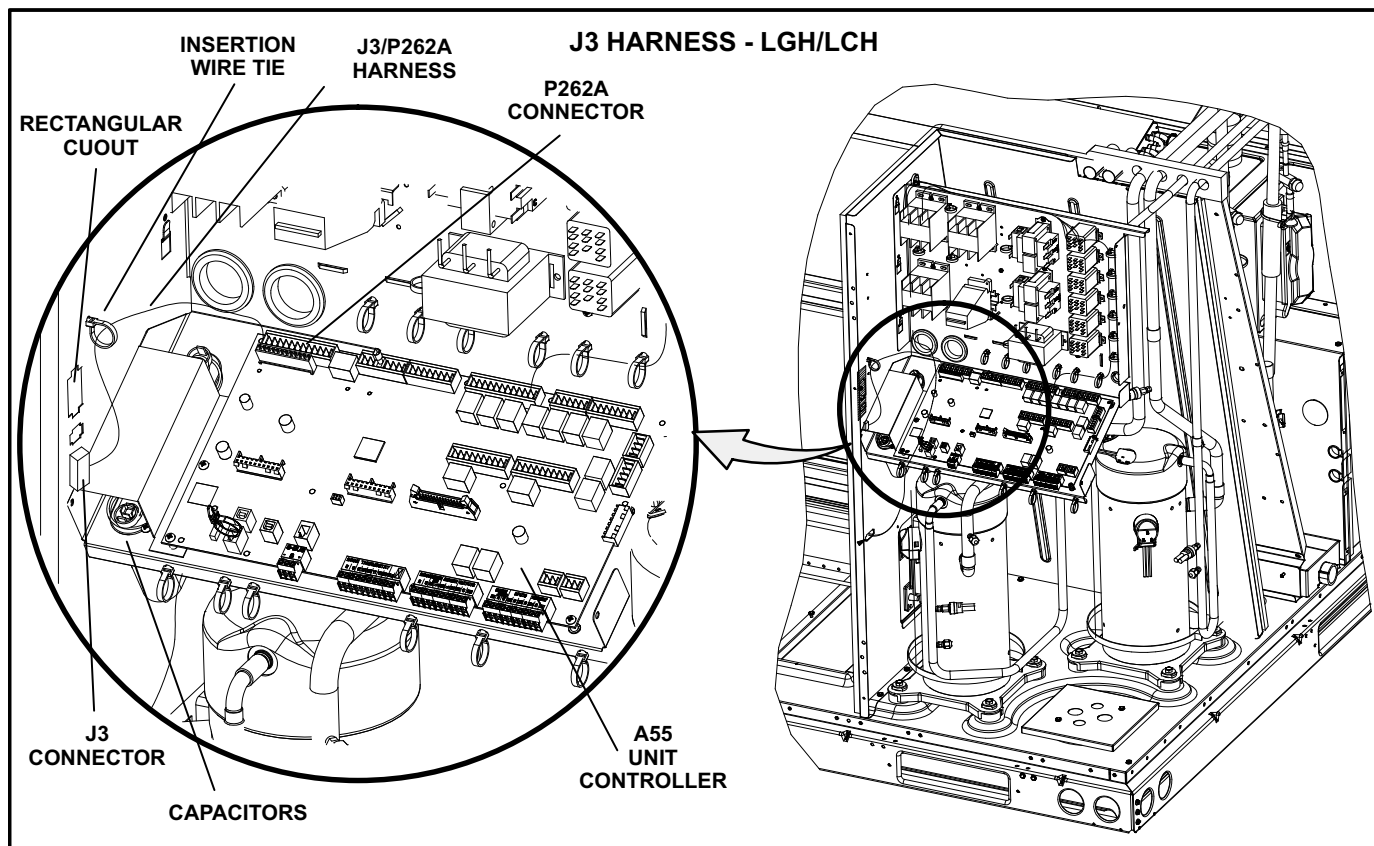

FIGURE 2
- 5- Snap J3 harness connector into the square cutout on the left side of the control box (near the capacitors). See figure 2 or 3.
Connect the other end of the J3 harness to P262A on the A55 Unit Controller. See figure 2.
- 7- Secure J3 harness in control box using insertion wire tie on left side of control box. See figure 2 or 3.